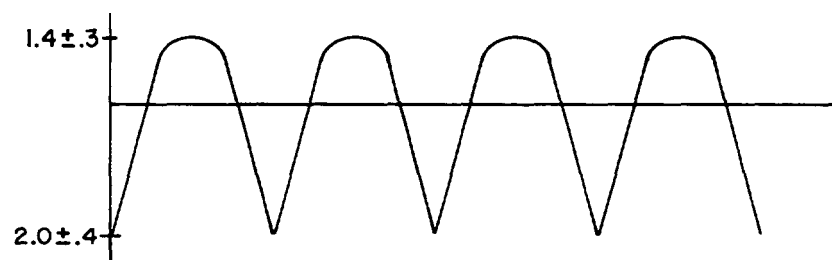

FIGURE 5-3
- 9) Connect the scope between Pin 6 (+) and Pin 4 (-). Rotate the N/S wiper to the opposite end of the pot. The waveform shall decrease in amplitude smoothly and then increase out of phase as shown in figure 5-3 below.